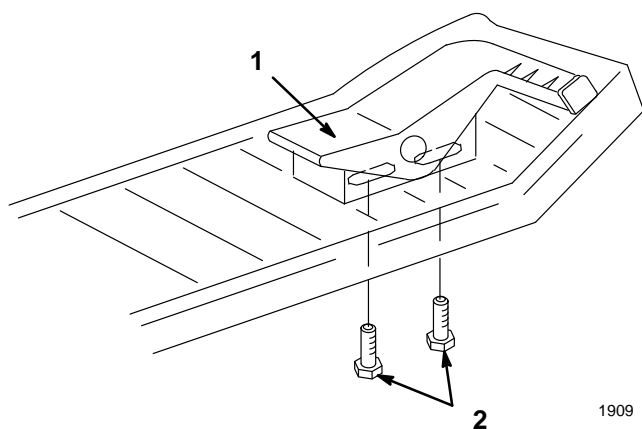

Figure 8
2. Loosen the capscrews below the right footrest. Slide the pedal in the slots away from the direction that made contact with the footrest (Fig. 8).